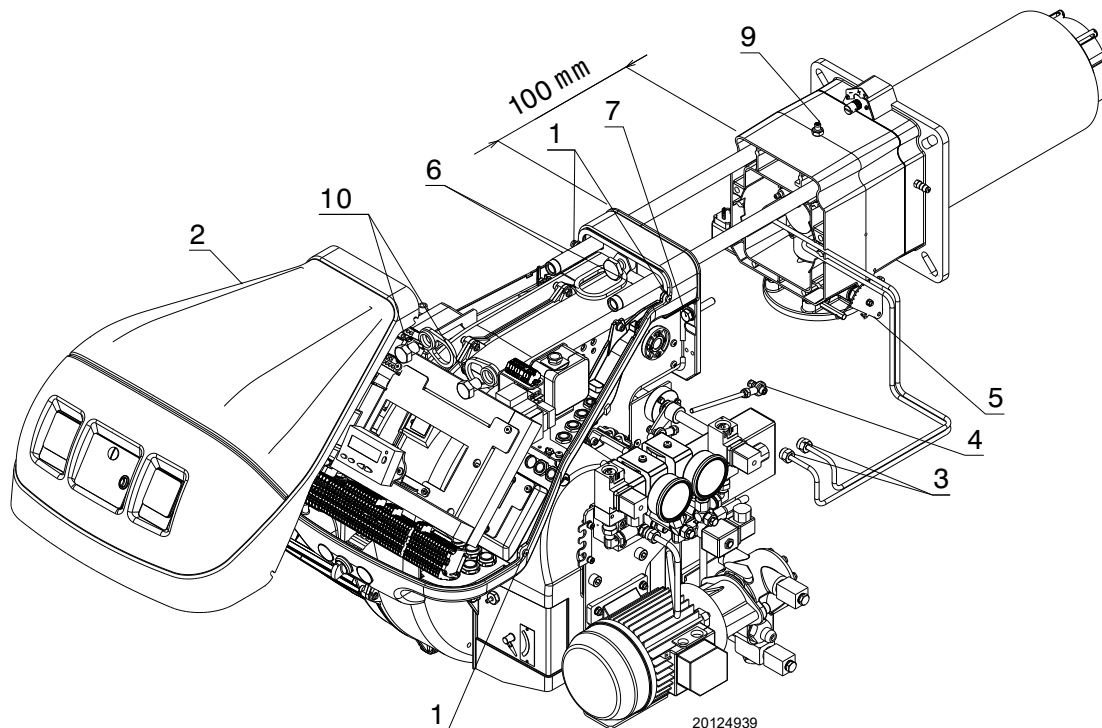

Fig. 52
- Loosen the 4 screws 1)(Fig. 52) and remove the hood 2).
- Disassemble the two extensions from the slide bars 6)(Fig. 52).